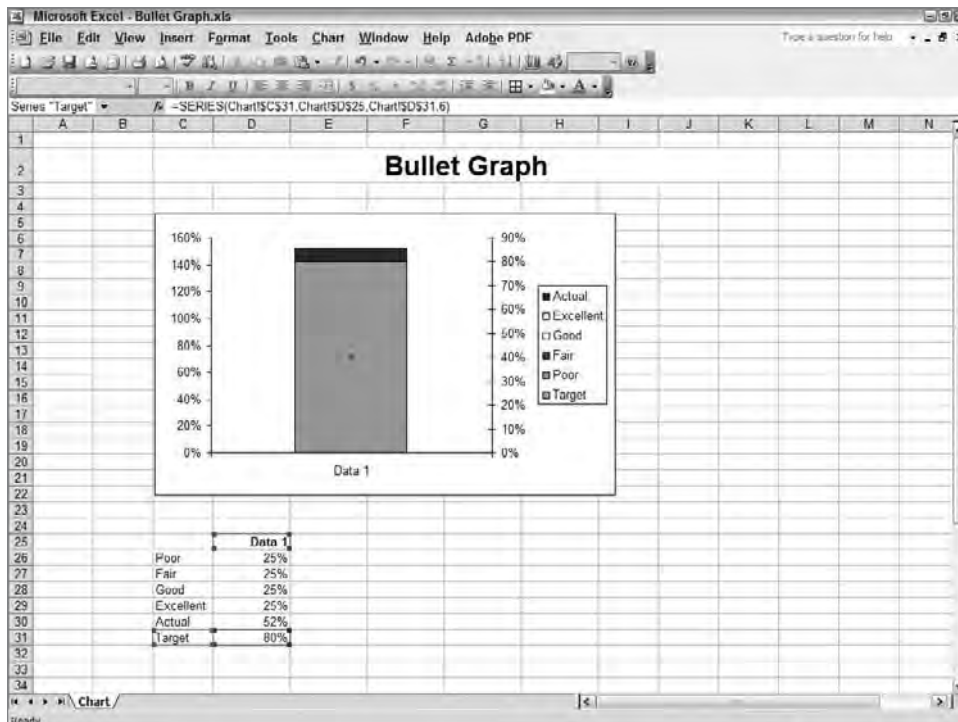

Figure 24.8: Moving the target value to a secondary axis enables it to move independently of the other segments.
1. Right click on the target value, the top segment, and choose Format Data Series. In versions of Excel before 2007, on the Axis tab, select Secondary Axis and choose OK. In Excel 2007, in the Series Options, select Secondary Axis and choose OK. This moves the target value to the new Y axis on the right. The chart should look similar to Figure 24.8. The secondary axis appears on the right, and the target segment covers most of the other stacked columns.